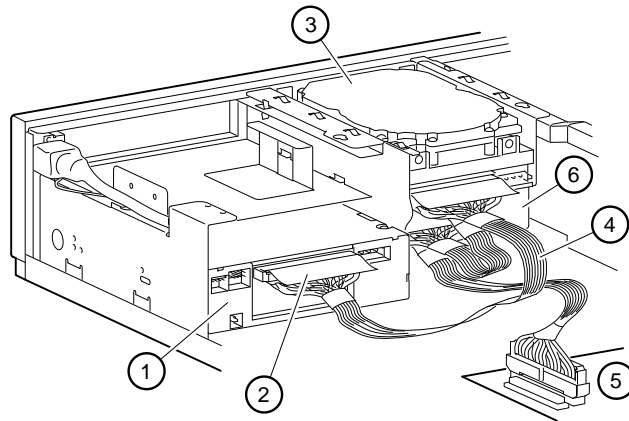

Figure 4-6 Internal SCSI Termination
SCSI drives are connected to a SCSI bus, which must be terminated at each end. Internally (inside the system box), the termination is set correctly at the factory. However, if you add or remove an internal SCSI drive, you may need to change the termination, especially if the drive you add or remove requires moving the end connector of the SCSI cable. For example, Figure 4-6 shows a typical configuration after a CD drive ① was added. Previously, the end connector of the SCSI cable ② was plugged into the hard disk ③ and the SCSI bus was terminated by the hard disk. One of the daisy-chained connectors on the SCSI cable ④ was unused. The SCSI cable originates on the motherboard ⑤ and goes first to another SCSI device ⑥.